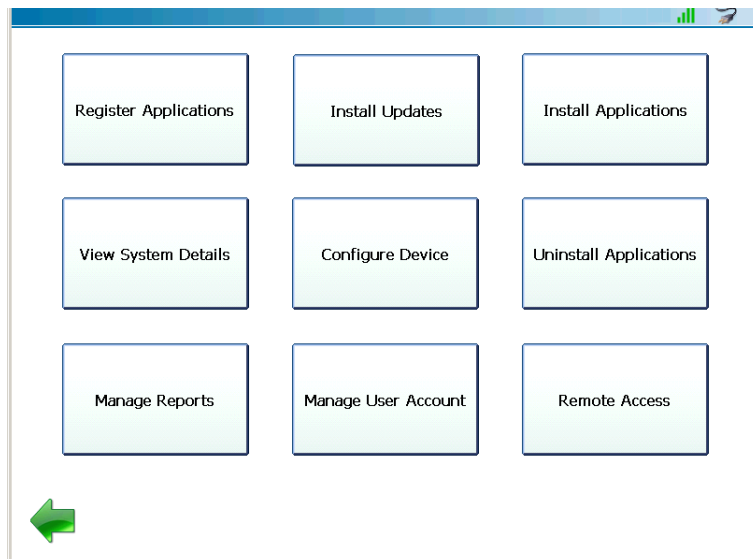

Figure 5.45 *Admin Menu*
- 1 Select **Uninstall Applications** from the Admin Menu (Figure 5.45).
**You can reach Technical Support by calling (800) 639-6774.**
- 1 Select **Manage Reports** from the Admin Menu (Figure 5.45).